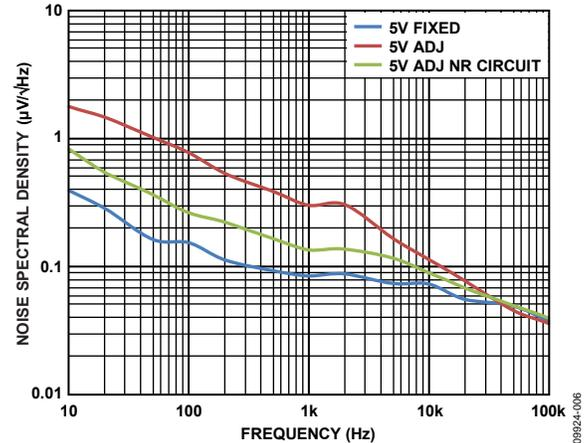

Figure 6. Noise Spectral Density of an Adjustable LDO
Figure 6 shows the effect of the noise reduction (NR) network on the noise spectral density of a high voltage adjustable LDO. It can be seen in Figure 6 that between 20 Hz and 2 kHz there is an improvement of about a factor of three (~10 dB) in the noise performance. Notice that the two curves converge above 20 kHz,
- As a noise spectral density curve where the noise is plotted as µV/√Hz vs. frequency (see Figure 6)